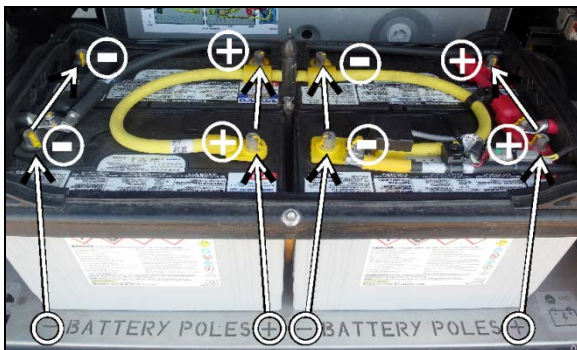

FIGURE 48: BATTERY BANK
- To respect battery polarity in the arrangement, positive (+) and negative (-) signs are laser cut on the battery deck steel sheet. When installing the batteries, place the battery negative and positive poles according to the signs on the battery deck (Figure 48).